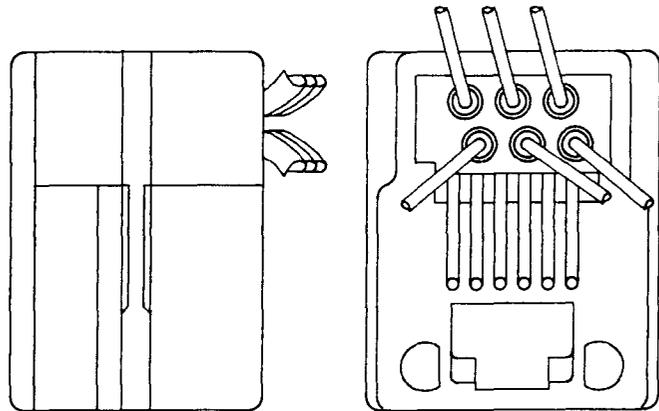

Fig. 2—652-Type Jacks
2.02 **652A4, A6, A6C, A6D, B4, B6, C2D, C4, C4C, D4, D6, E, E2B, E4P, and WP4:** The 652-type jacks (Fig. 2) are modular-type jacks that consist of a gray thermoplastic frame.